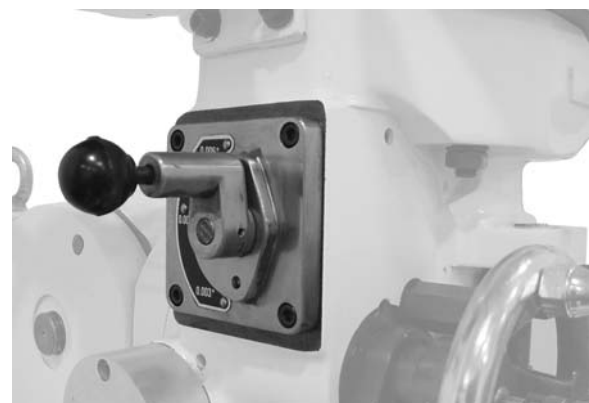

Figure 11
*Some of the following steps may have already been performed on the machine. If so, ignore the instructions related to those particular steps. Otherwise, perform them in the order listed, referring to Figure 11 for any clarification.*
The *Feed Rate Lever* (Figure 11) is used to set the per-revolution rate of the power feed mechanism. Three feed rates are available: 0.0015-inch, 0.003-inch, and 0.006-inch per revolution. The positions are shown on an indicator plate under the feed rate lever.